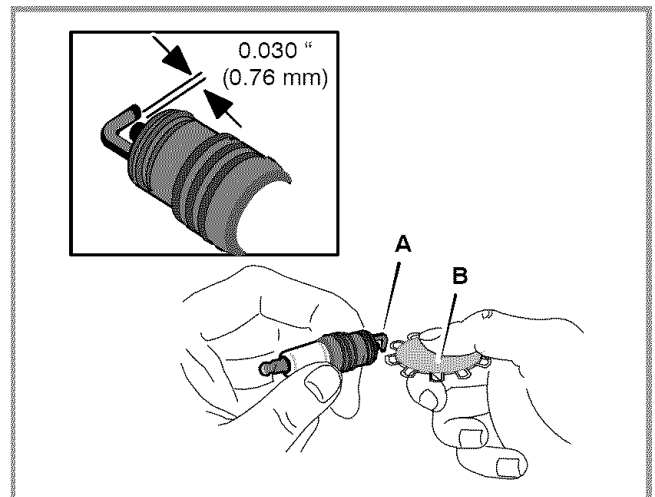

Figure 17: Check Spark Plug
Check the spark plug every 100 hours. Replace the spark plug if, upon inspection, the electrode (A) is burned or worn. Make sure that the spark plug is clean. Check the gap with a wire gauge (B). If necessary, reset to 0.030" (0.76 mm). See (Figure 17).